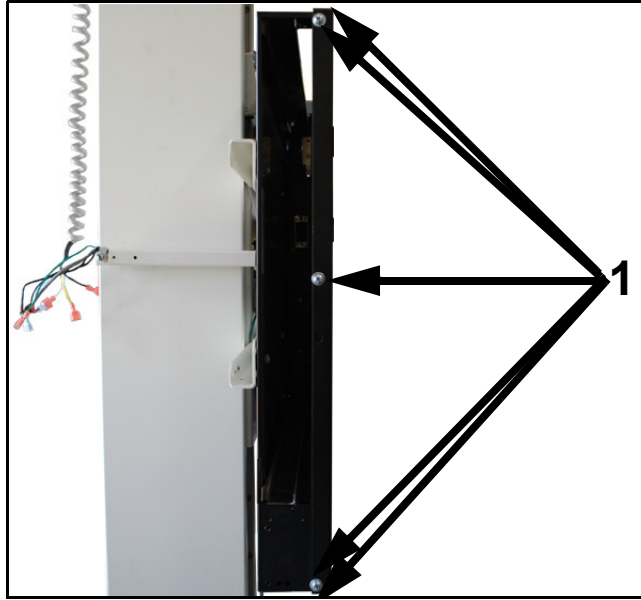

Figure 5-8. Left Face Plate Screws
- 7 Remove the five screws (1 in Figure 5-8) on the left face plate holder.